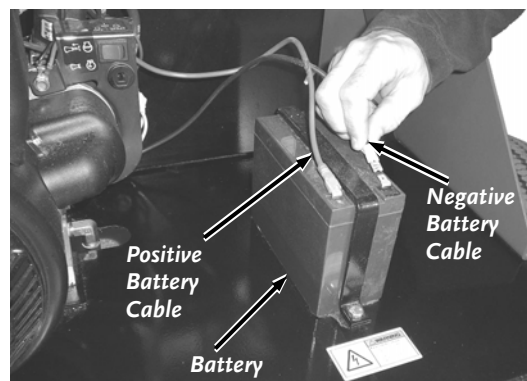

Figure 10
1. Slide the Terminal of the Negative Battery Cable onto the Negative Terminal Lug of the Battery (**Figure 10**).